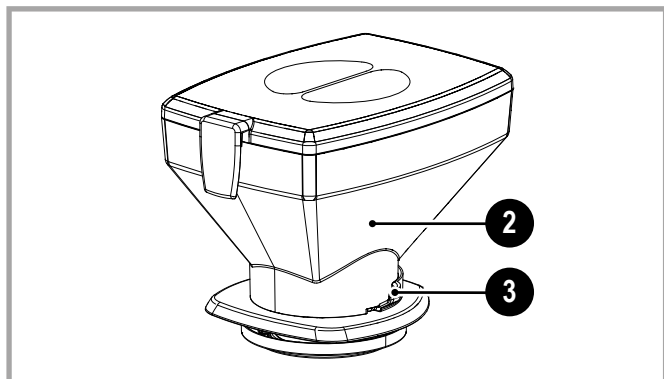

Fig. 8.1 - Hopper
To clean the hopper, proceed as follows (Fig.8.1 and 8.2):
- Close the shutter (3 - Fig.8.1) by pushing it inwards. Activate grinding until there is no coffee left in the grinder-doser.
- Remove the hopper (2 - Fig.8.1) from the grinder-doser.
- Remove any coffee left in the hopper (2 - Fig.8.1).
- Before repositioning the hopper (2 - Fig.8.1) on the grinder-doser, make sure none of the parts are still wet or damp.